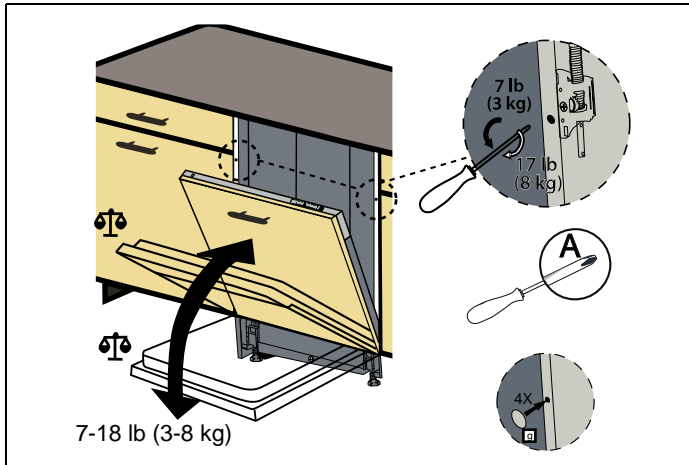

Fig. 28
8) According to the weight of the assembled wooden door, the balancing must be provided by the mechanism shown in Fig. 28 .